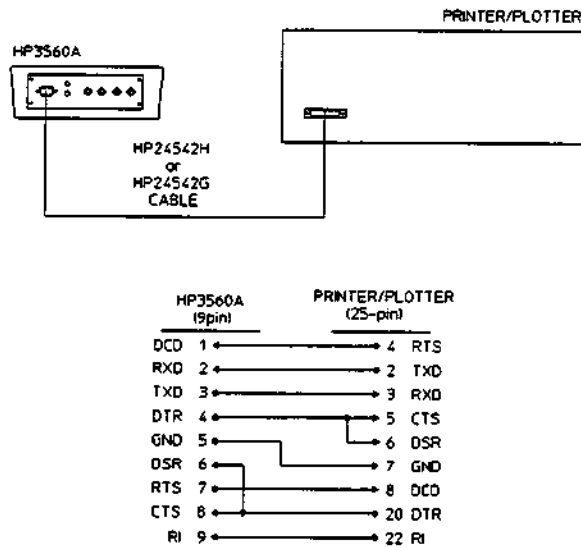

Figure 5-30.
To get a hardcopy of the displayed data on an HP-GL plotter, select [PLOT] in the [MISC] column of the [Utility] menu. [PLOT] is a selection under [PRINT:] in this column. Pressing [Shift] [PRINT] outputs the graphics data via the RS-232 interface. Pressing [Preset] during the transfer aborts the transfer. The complete record is plotted and the grid can be turned on or off. See [PRINT] for instructions on how to set up the HP 3560A and a plotter. Figure 5-30 shows how to connect the HP 3560A to a printer or plotter with an RS-232 connector.
4. Connect the printer or plotter to the analyzer using the cable and pin connections shown in figure 5-30.